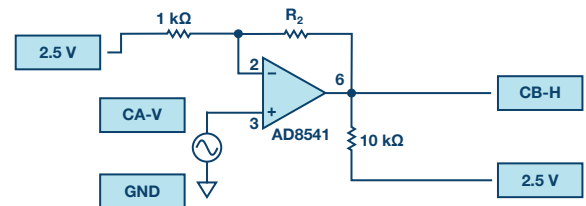

Figure 8. Noninverting amplifier with gain.
The noninverting amplifier configuration is shown in Figure 8. Like the unity-gain buffer, this circuit has the (usually) desirable property of high input resistance, so it is useful for buffering nonideal sources with a gain greater than one.
Assemble the noninverting amplifier circuit shown in Figure 8. Remember to shut off the power supplies before assembling the new circuit. Start with R2 = 1 kΩ.
- ▶ Summing circuit: using superposition, derive the expected transfer characteristic for the circuit of Figure 8. Find the output voltage in terms of  $V_{IN0}$ ,  $V_{IN1}$ ,  $V_{IN2}$ , and  $V_{IN3}$ . Compare the predictions of the ideal relationship with your data.